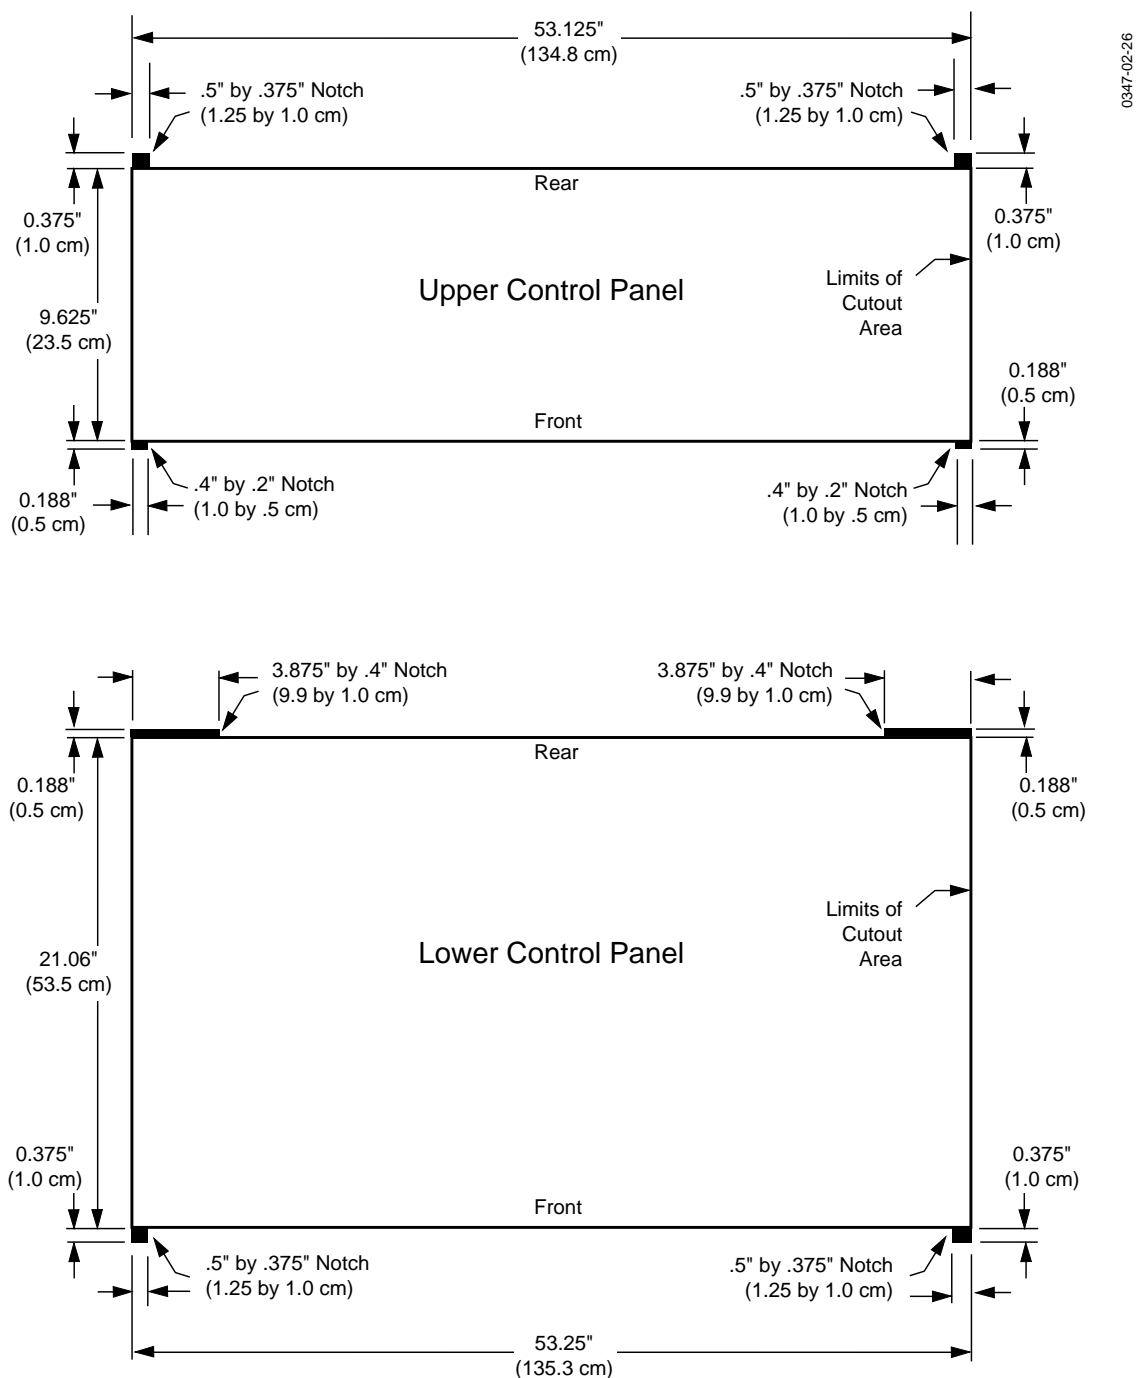

Figure 2-7. Model 4000-3 Control Panel Console Cutout Dimensions
These instructions allow you to install your Control Panel in a full flush-mount installation. For a semi flush-mount installation, simply cut the console to the dimensions indicated in Figure 2-7, set both Control Panel tubs in the console, and complete Steps 1, 4, 9, and 10 on both tubs. For a full flush mount installation, it is recommended that the Control Panel be on site before cutting the holes and fabricating the routed flanges.
1. Using the dimensions shown in Figure 2-7, make a cutout in the console to accommodate the Model 4000-3 upper Control Panel unit.
Note that in all four corners, clearance must be provided for round screw heads located on the front and rear of the Control Panel tubs. See notches illustrated in Figure 2-7.
6. Using the dimensions shown in Figure 2-7, make a cutout in the console to accommodate the Model 4000-3 lower Control Panel unit.